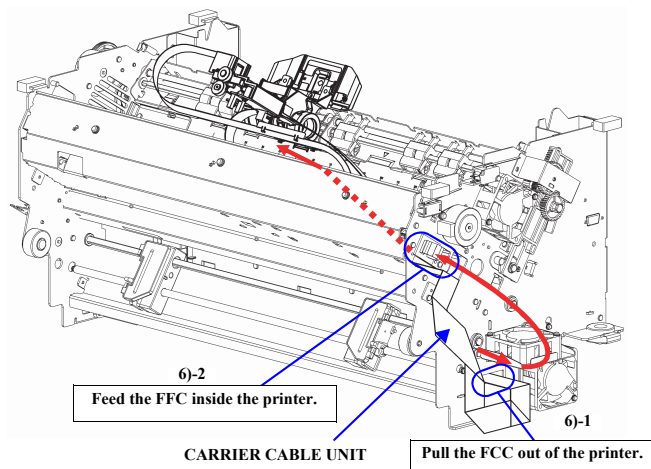

Figure 4-72. CARRIER CABLE UNIT Removal (2)
6. Slowly feed the CARRIER CABLE UNIT FFC inside the printer mechanism toward the carrier as follows: First, pull the FFC from the bottom of the mechanism outside through the hole near the bottom of the SIDE FRAME, RIGHT. Then, feed the cable in toward the carrier through the hole in the frame beneath the upper cable clamp. See Figure 4-72.